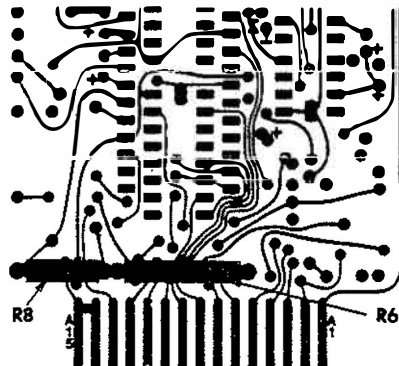

Figure 5. Component Location
3. Observe resistor values for R6 and R8 and compare to table I and figure 5 below. Install resistors of values specified in table I to obtain desired range.